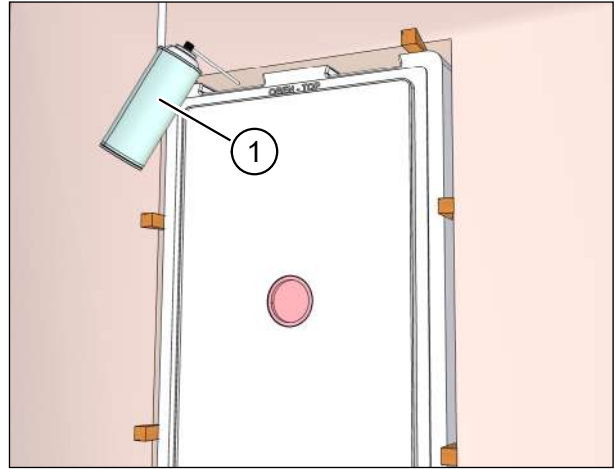

Fig. 23: Filling gaps around the wall box with foam
- ▶ Fill the gaps between the wall box and wall breakthrough all around and continuously with expanding foam (item 1 in Fig. 23) or using another suitable filling material.